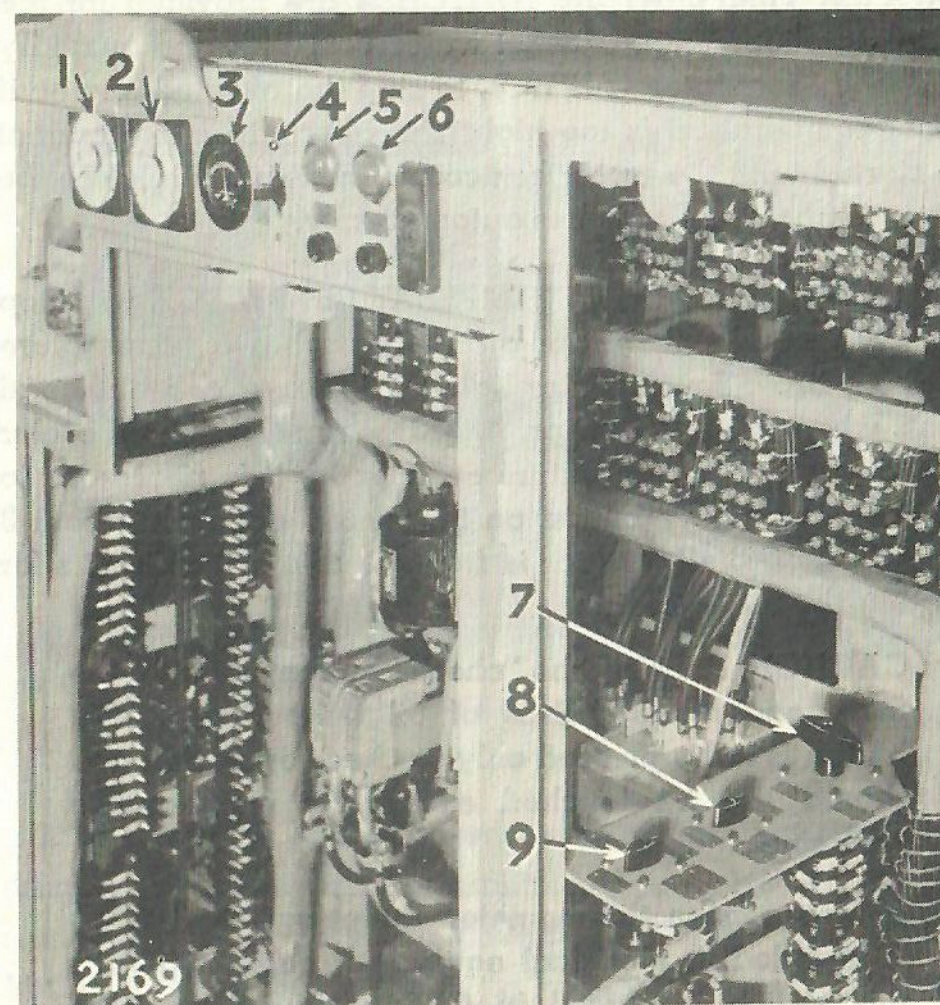

FIG. 5. ELECTRICAL INSTRUMENT PANEL
The traction engine control switch (TECS), and traction motor control switch (TMCS) cabinet (81) have four positions: **LEADING ON—TRAILING ON**, **LEADING ON—TRAILING OFF**, **LEADING OFF—TRAILING ON**, and **LEADING OFF—TRAILING OFF**. They are normally left in **LEADING-ON, TRAILING-ON** position. They cut out the engine or motor if the need arises. Contactors AMB, TMLB, and AAC4 cabinet (80) trip like breakers but cannot be reset manually. Indicator lights on Electrical Instrument Panel, Fig. 5, show when AMB or TMLB have tripped. Contactors are reset by a push button below the light.
Instruments on the electrical equipment cabinet Fig. 5 include a battery ammeter, a generator voltmeter, a frequency meter, traction motor overload light and reset button, auxiliary motor overload light and reset button, and main breaker selector switch. A trouble light receptacle is also installed on this panel. Normal instrument readings are given in the Operating Section.